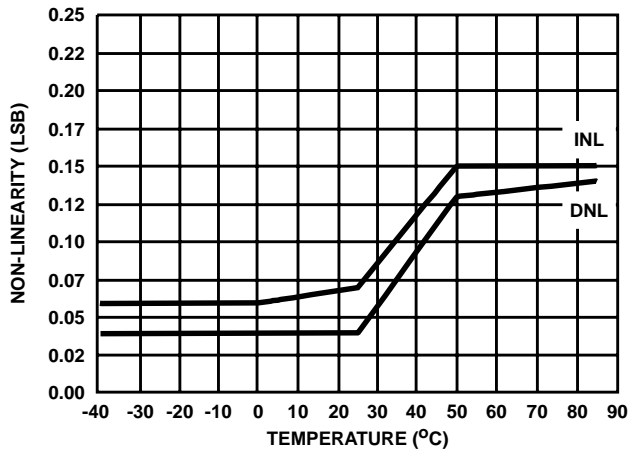

FIGURE 6. NON-LINEARITY vs TEMPERATURE
- The voltages listed are the ideal centers of each output code shown as a function of its associated reference voltage. See Ideal Transfer Curve Figure 6. The output code should exist for an input equal to the ideal center voltage $\pm 1/2$ of the step size.